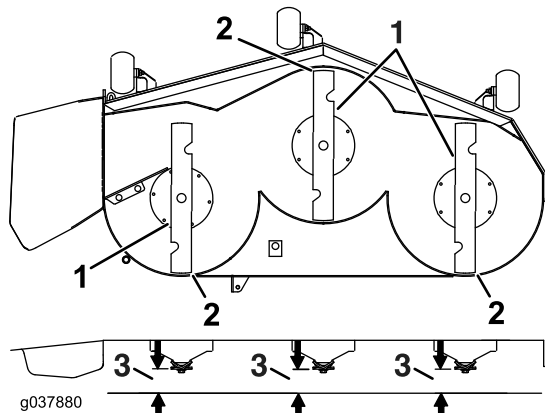

Figure 105
7. Check the front-to-rear blade level (Figure 105). Ensure the front blade tip is lower than the rear blade tip as shown in the block height and rake table. If adjustment is needed, continue with this procedure.